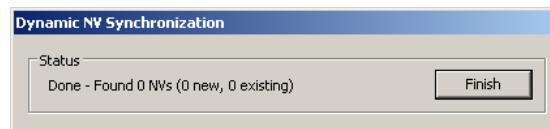

Figure 114: Synchronizing dynamic NVs from the device.
2. Right-click and select **Sync Dynamic NVs** in the context menu. The L-Proxy Configurator then loads any new dynamic NVs, which have been created and are not yet part of the port interface definition. The process completes when the dialog shown in Figure 114 appears.